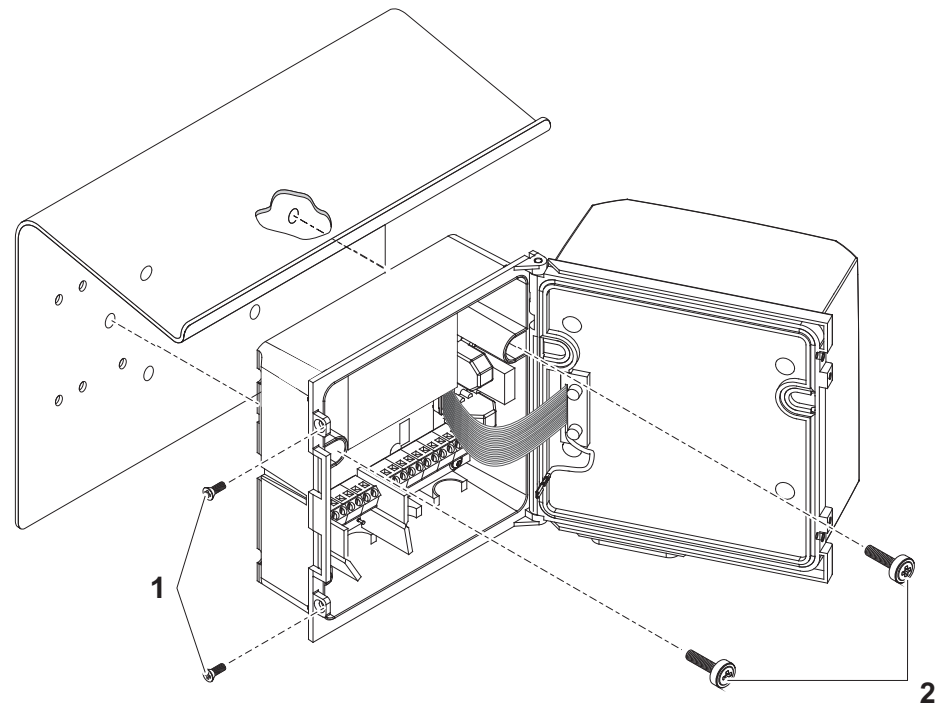

figure 3-8 Mounting the DIQ/S 281 with sun shield SD/K 170
- 1 Remove the two countersunk screws (pos. 1 in figure 3-8) and swing open the module lid.
- 2 Position the universal transmitter on the sun shield and fix it into place with the two screws (pos. 2 in figure 3-8).
- 3 Close the lid and fix it with the two countersunk screws (pos. 1 in figure 3-8).